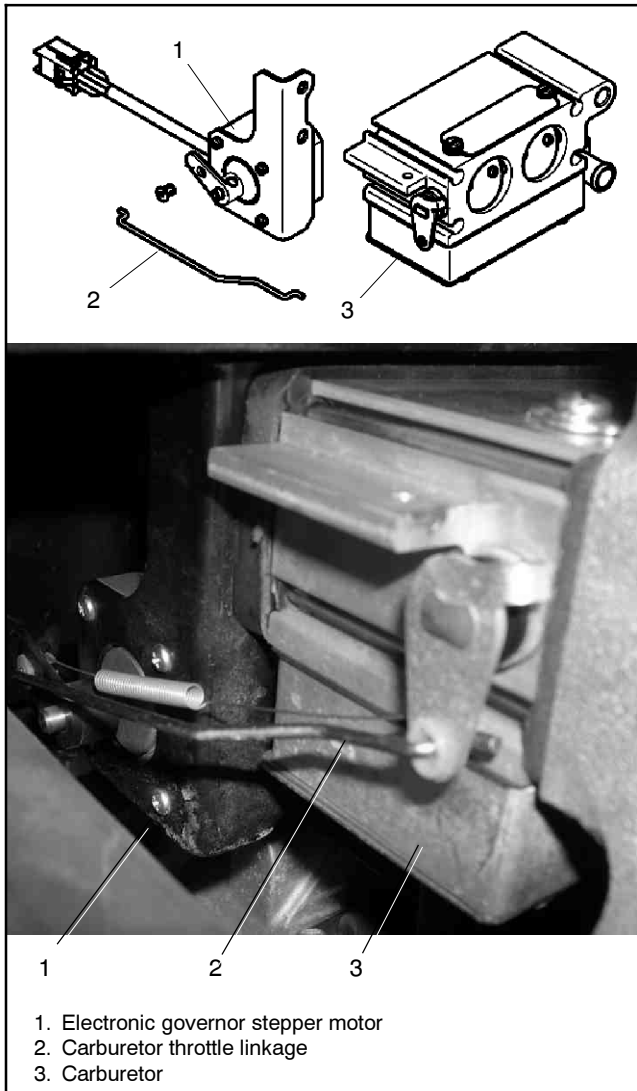

Figure 5-22 Stepper Motor and Carburetor
3. Hold the throttle linkage steady while the engine is running. See Figure 5-22. If the engine runs at a steady speed with no hunting or surging when the throttle is held steady, then the hunting/surging
1. Verify that the carburetor throttle linkage is connected to the stepper motor as shown in Figure 5-22.